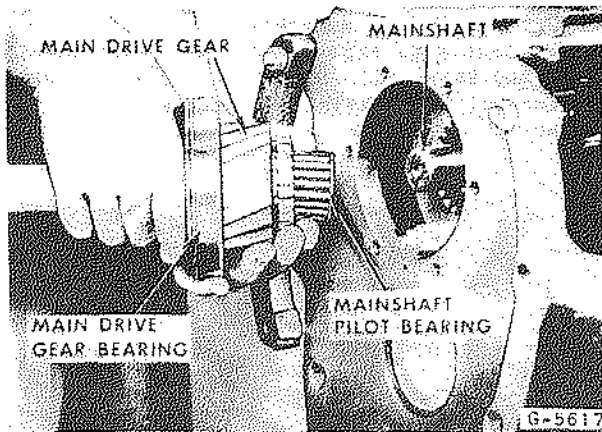

Fig. 17 - Removing Main Drive Gear
Lift main drive gear (56) and bearing (67) also mainshaft pilot bearing (13) out through front of case (Fig. 17).